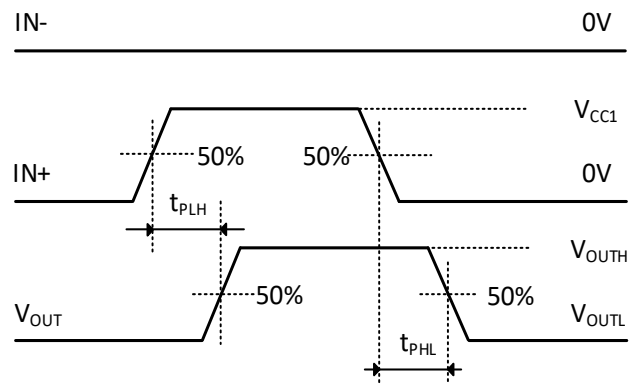

Figure22. Propagation Delay Time Waveform Measurement
(1)  $t_{PLH}$  = low-to-high propagation delay time,  $t_{PHL}$  = high-to-low propagation delay time. See Figure22.